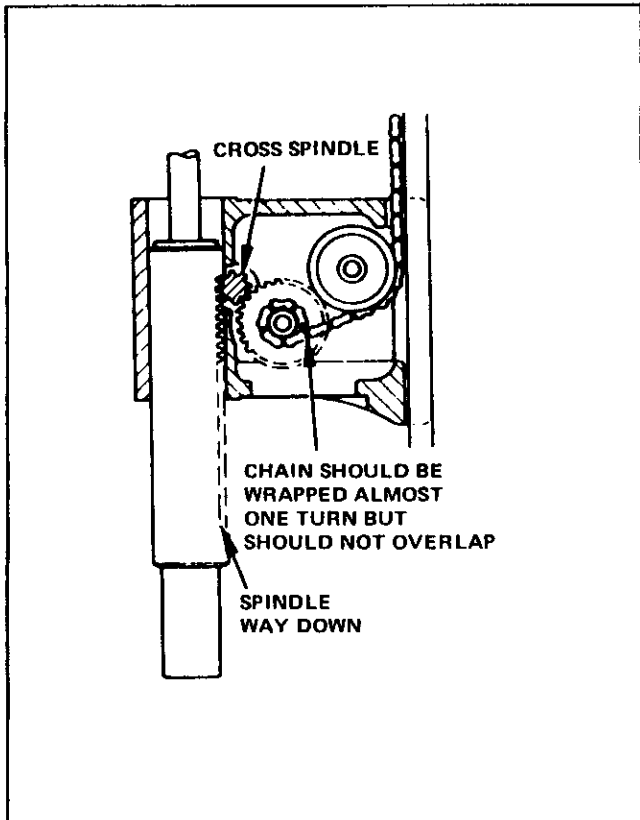
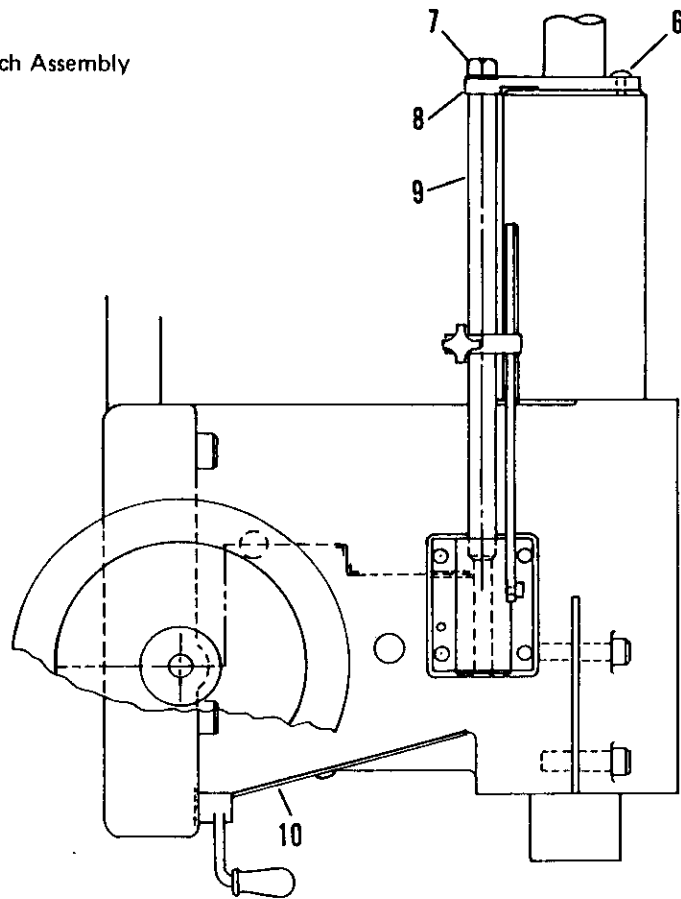
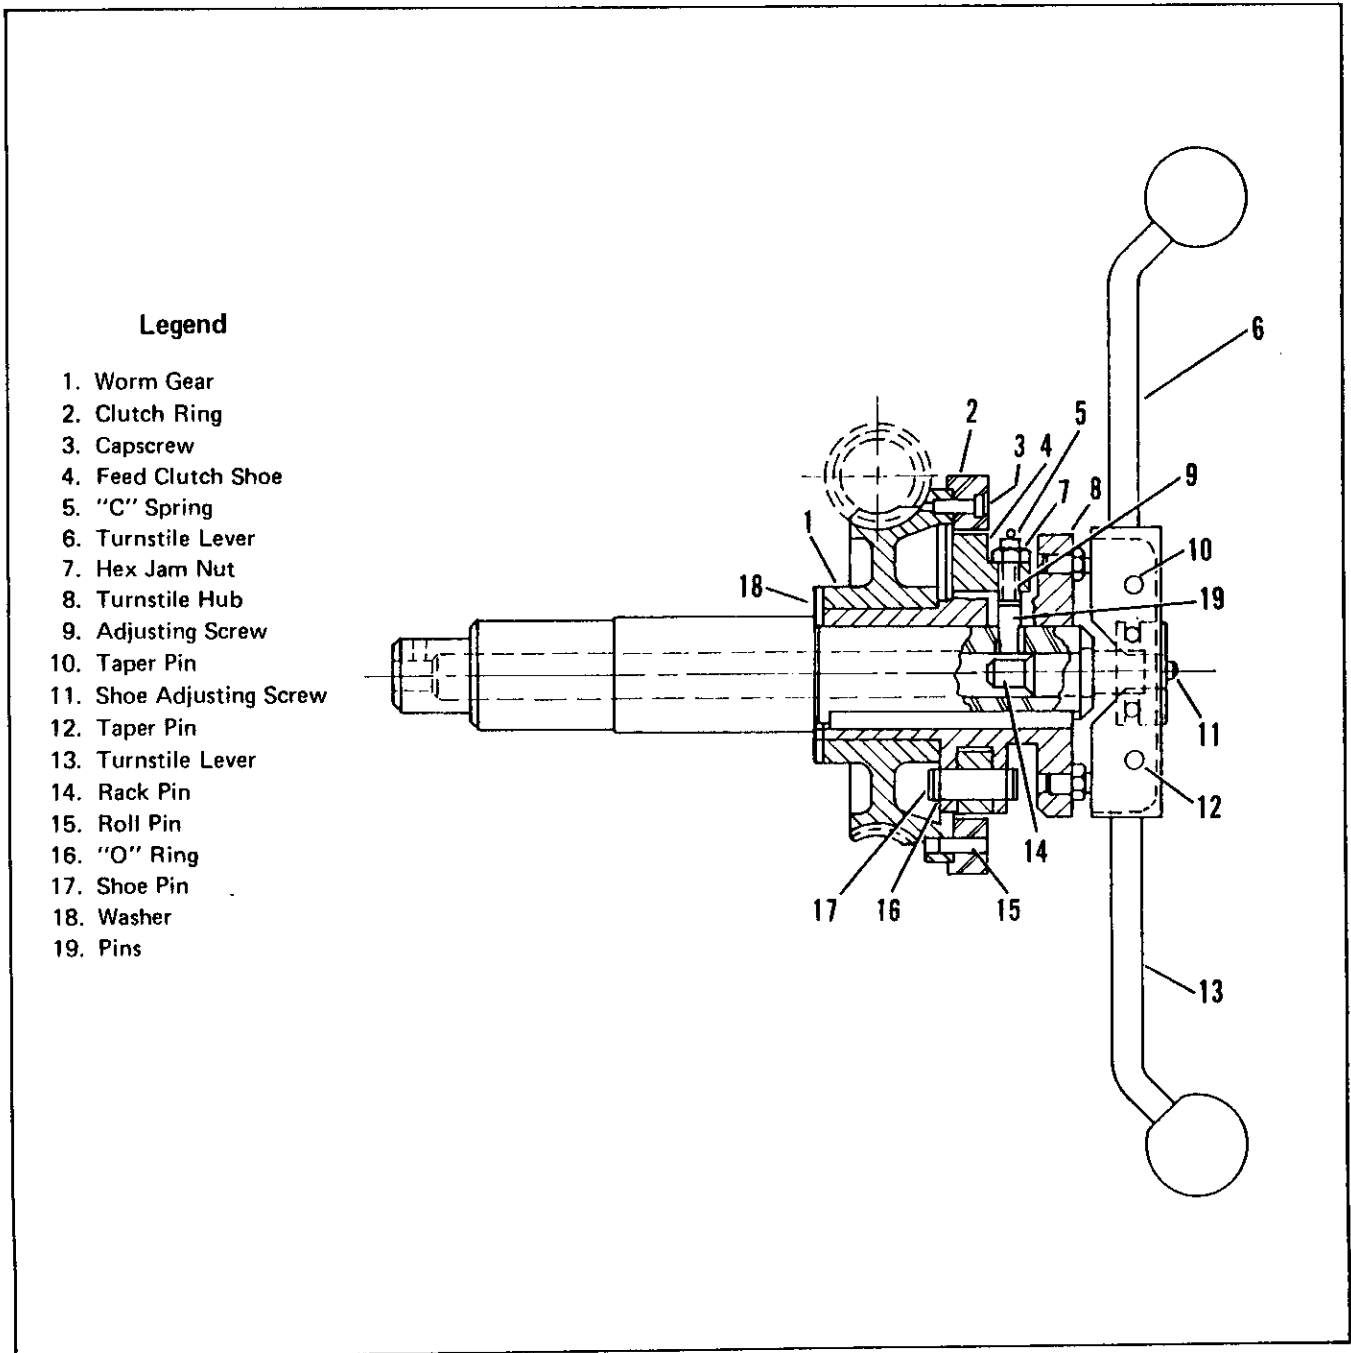

Figure M-5. Chain Position
Figure M-6. Cross Spindle And Spindle Removal
Figure M-7. Cross Spindle Sub-Assembly
6. Remove the sheet steel cover (10, Figure M-6) from the underside of the sliding head and note the position of the chain on the chain gear so that this can be placed in the same position at reassembly (Figure M-5).
8. Remove one of the turnstile levers (3 and 5, Figure M-6) and remove the screws (2) and the cover (1).
Cross Spindle Disassembly (Figure M-7)
1. Knock out the taper pins (10 and 12) from the turnstile hub (8) and remove the two turnstile levers (6 and 13).
2. Remove the screws (2, Figure M-6) and remove the cover (1, Figure M-6).
4. Slide out rack pin (16, Figure M-7), push rod and cam pin (12 and 11, Figure M-6). Remove capscrews (3, Figure M-7) which hold the feed clutch ring (2) to the worm gear (1) and drive out roll pins (14). Remove "C" spring (5) and the clutch ring (2). Then swing feed clutch shoes (4) out of position for removal of adjusting screws (9) and the bushings through which the pins (19) pass.
5. The turnstile hub (8) together with the worm gear (1) may now be taken off the cross spindle.
6. If necessary, the clutch shoes may be removed from the turnstile hub by slipping off the "O" rings (16) and driving out the shoe pins (17).
Cross Spindle Reassembly (Figure M-7)
Reassembling The Sliding Head (Figure M-5)
4. Try moving the spindle by hand. There should be little or no movement down since the spindle should be at its lower limit of travel. Movement up should be difficult because with the counterweight parked, it is necessary to lift the weight of the spindle and sleeve. Remove the wrench and try the spindle through its full travel. The chain should be wrapped on the hub of the chain gear almost a full turn (but not overlapping) (Figure M-5) when the spindle is down and tangent to the hub when the spindle is up.